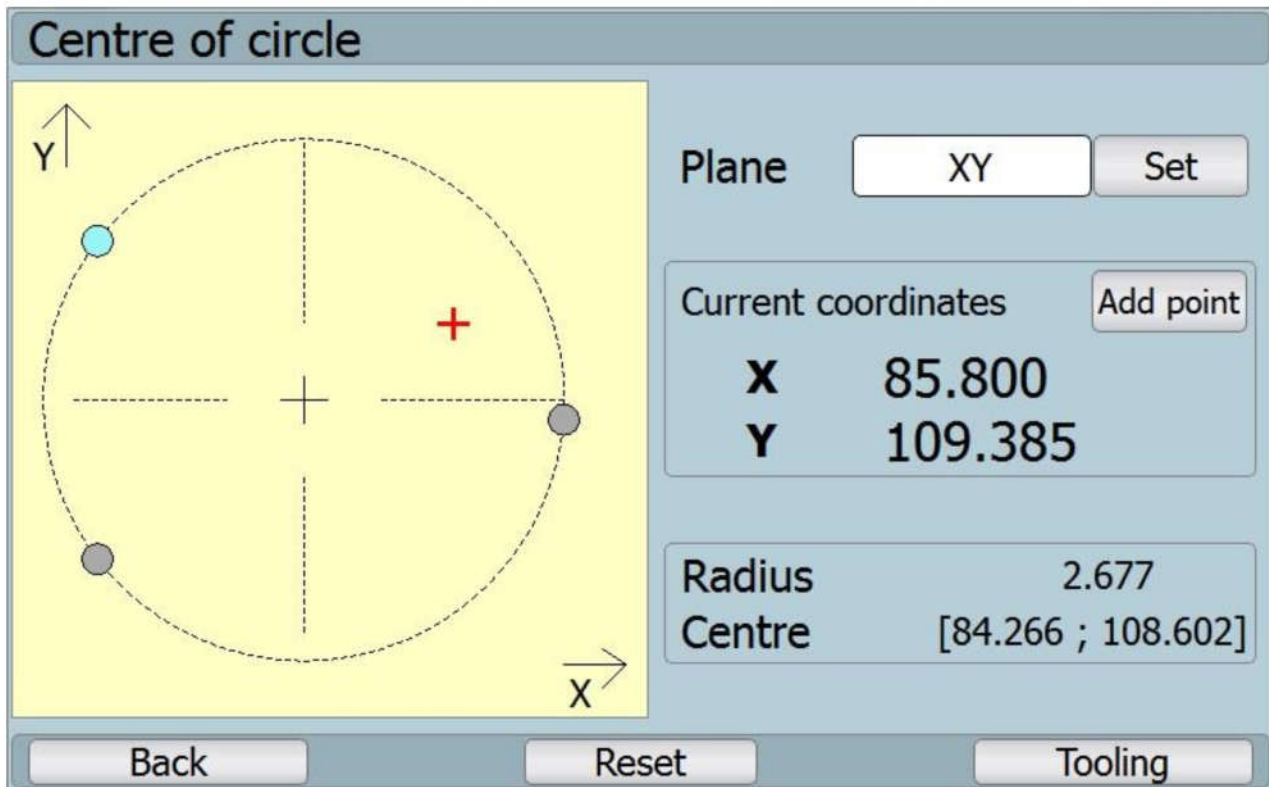

Fig. 25: Searching for the circle centre
- ⑩ It is used for finding the circle centre entered by means of individual points on the circle circumference.
- ⑩ At first, select the plane for searching the centre.
- ⑩ Use button „**Pridat bod**“ (add point) to add individual points with the actual coordinates (coordinates from encoders) displayed (see fig. 25: Searching for the circle centre).
- ⑩ After entering at least three points, automatically searches for the circle centre and draws in the scene.
- ⑩ It is possible to enter any amount (at least three).
- ⑩ After finding the centre, the circle diameter and centre coordinates are shown.
- ⑩ Button „Reset“ sets everything in the initial state.